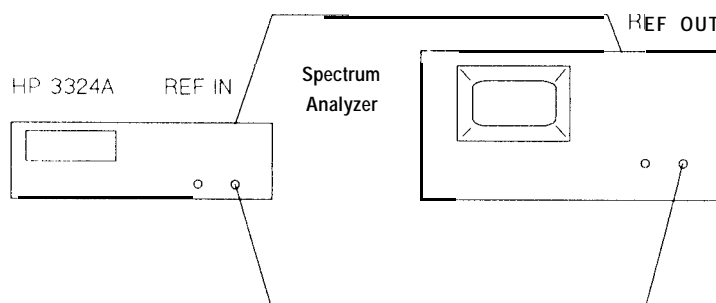

Figure 12-2. Mixer Spurious Test Set-Up
1. Connect the HP 3324A signal output to the spectrum analyzer 50 Ω (RF) input and the HP 3324A EXT REF input to the analyzer 10 MHz reference output, as shown in Figure 12-2.